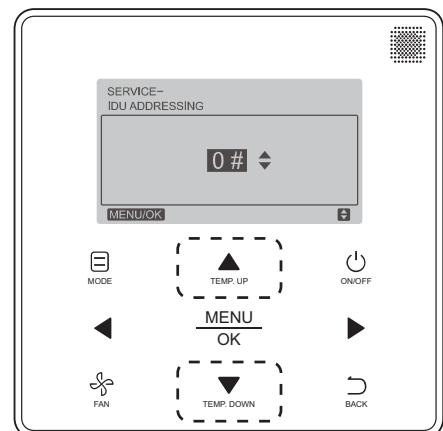

Fig. 29 —Programmable Controller Setting IDU Address
3. Press **TEMP. UP** or **TEMP. DOWN** to choose the address you want to set as shown in Fig. 29. Press **MENU/OK** to send this address to the IDU.